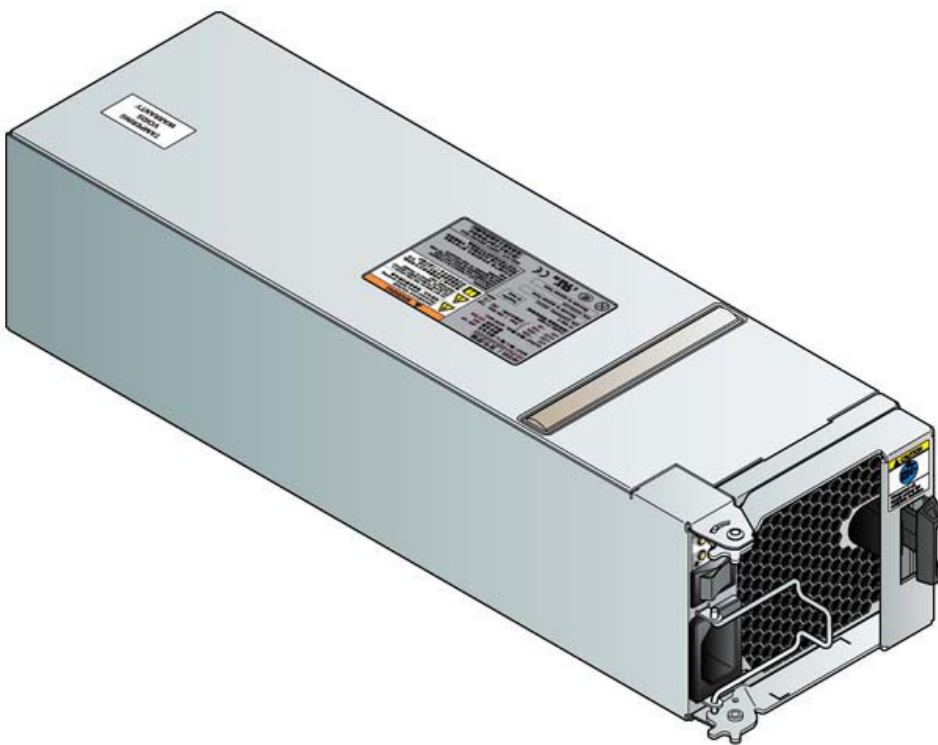

Figure 2-4 - Power Cooling Module
- Up to two 580W, 100-240V AC Power Cooling Modules (PCMs), (see Figure 2-4)
PCM voltage operating ranges are nominally 100V - 240V AC. A typical PCM is shown in Figure 2-4. Each PCM incorporates an AC mains power input switch and the following status indicators: